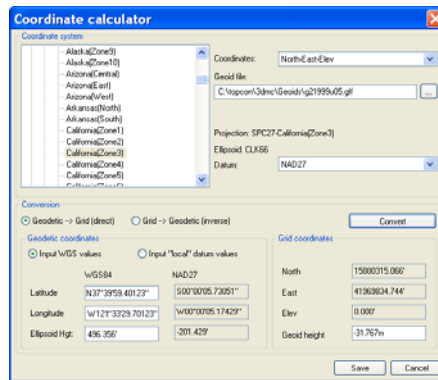

Figure 2-36. All Coordinates Calculated
7. Press **Save** to save the calculated grid coordinates as a text file (Figure 2-36 on page 2-33)